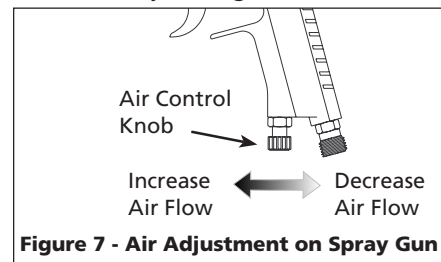

Figure 7 - Air Adjustment on Spray Gun
1. Adjust air pressure to the spray gun according to the recommendations supplied with spray material. This air pressure usually falls between 40 - 60 psi. Adjust air pressure with trigger pulled and air control knob (if applicable) fully open. If reduced air pressure is desired for some areas of spray job, use air control knob to reduce pressure as necessary (See Figure 7).
1. Adjust air pressure to the spray gun according to the recommendations supplied with the spray material. This air pressure usually falls between 40 - 60 psi. Adjust air pressure with the trigger pulled and air control knob (if applicable) fully open. If reduced air pressure is desired for some areas of the spray job, use air control knob to reduce pressure as necessary (See Figure 7).